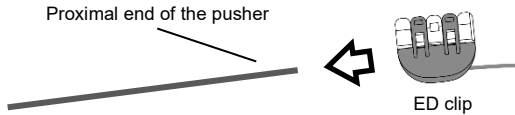

Figure 5. ED clip connecting to the pusher
- (2) In accordance with the instructions for use of the i-ED COIL, insert the i-ED COIL into the microcatheter placed in the blood vessel of the patient.
- (3) Advance the i-ED COIL to the end of the microcatheter. Confirm, using X-ray fluoroscopy, that the detachable part of the i-ED COIL has advanced exceeding the second marker (proximal side) of the microcatheter. Connect the ED clip to the proximal end of the i-ED COIL pusher and confirm that the red lamp is lit and the buzzer is beeping. (Figure 5.)